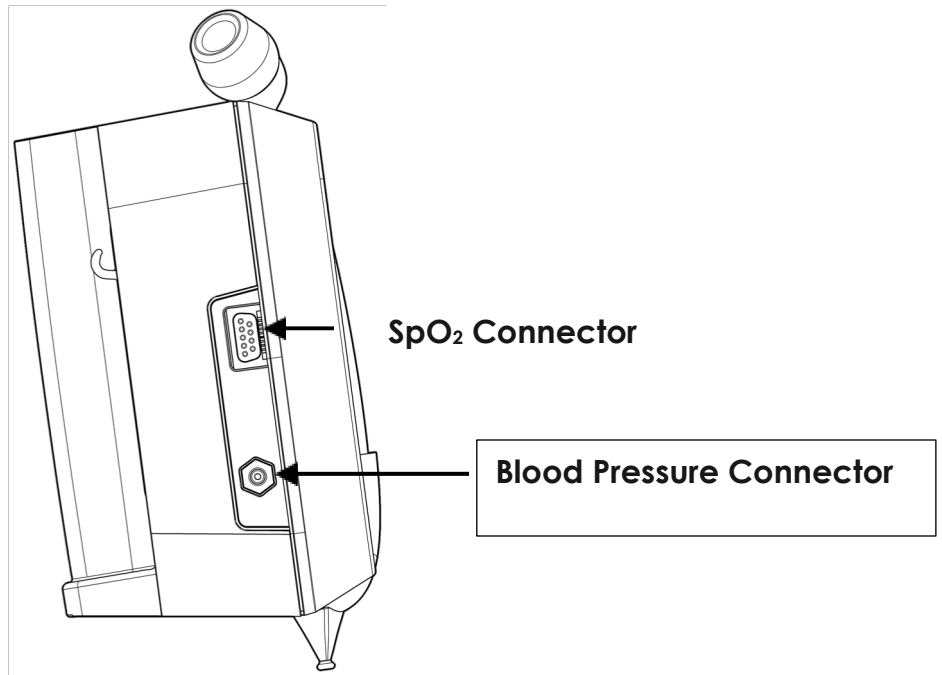

Figure 2 – Left View
3. Attach the blood pressure hose to the connector located on the left side of the device (see **Figure 2**). Attach the appropriate size blood pressure cuff to the fitting at the end of the blood pressure hose.
4. Connect the SpO₂ sensor* to the left side of the device (see **Figure 2**). If desired, connect the included SpO₂ extender cable to the sensor and attach the SpO₂ extender cable to the SpO₂ connector on the left side of the device (see **Figure 2**).